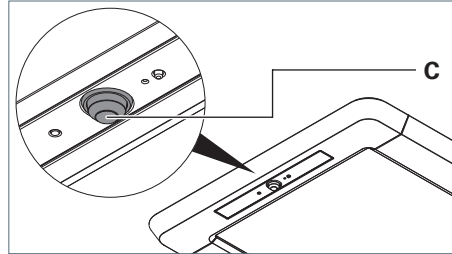
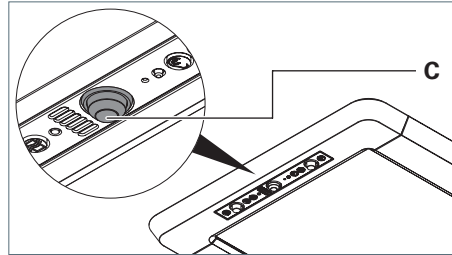

Fig. 29: PIR sensor, version R.
Fig. 30: PIR sensor, version RX.
- Set the ball head **C** of the PIR sensor to the required direction, see Fig. 29 and see Fig. 30.